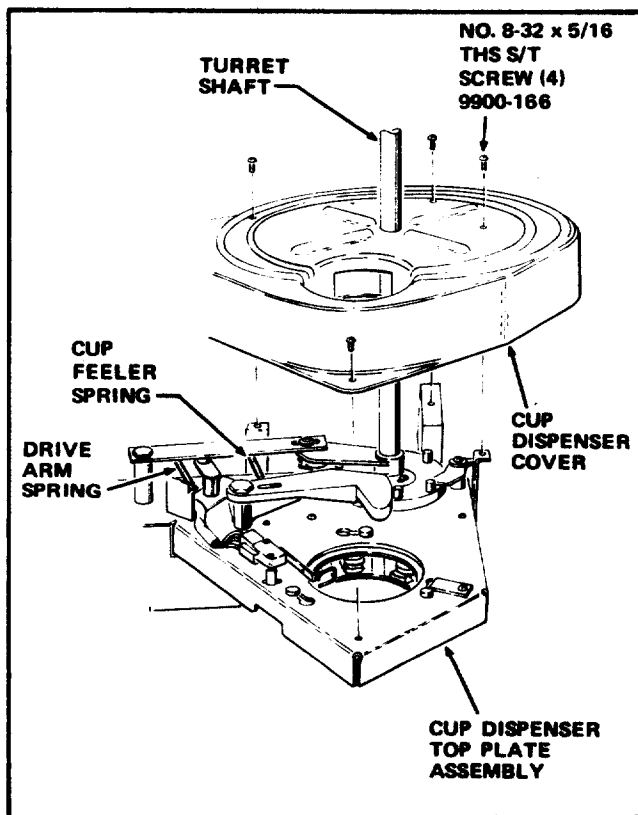

FIGURE 3
1. Remove four No. 8-32 x 5/16 Truss Head Self Tapping Screws attaching the Cup Dispenser Cover to the Cup Dispenser Top Plate Assembly and lift the Cup Dispenser Cover from the Turret Shaft. See Figure 3.
2. Unhook the Cup Feeler Spring from the Cup Feeler and Cover Support and remove the Spring from the Cup Dispenser Mechanism. See Figure 3.
3. Unhook the Drive Arm Spring from the Drive Arm Assembly and Drive Motor Arm Assembly and remove the Spring from the Cup Dispenser Mechanism. See Figure 3.